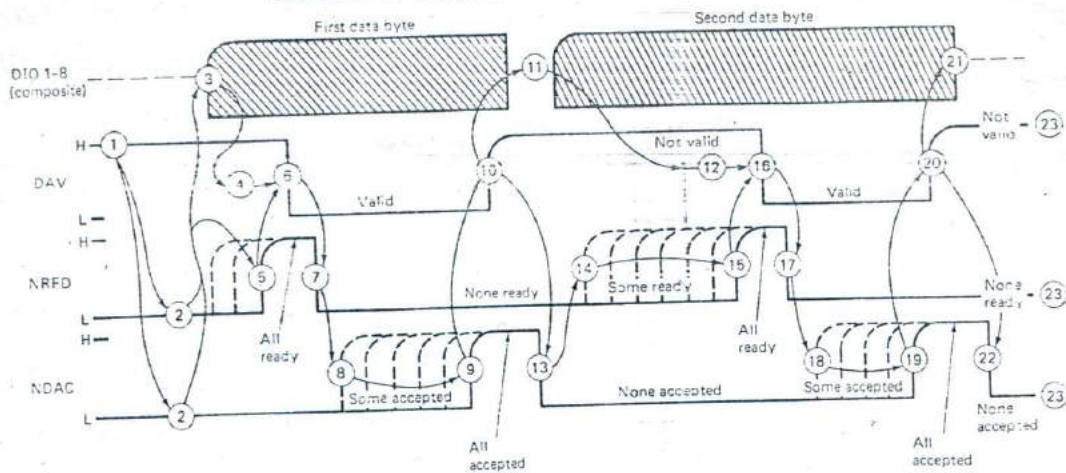

Fig. 13-24 HP-IB three-wire handshaking.
Several listeners can be active at a time, but only one talker may be active at any given time. When a talk address is placed on the data bus with ATN asserted, all other talkers are automatically deselected. The active talker controls the *data valid* (DAV) line. The active listener or listeners control *not ready for data* (NRFD) and *not data accepted* (NDAC). The various listeners may not all accept data at the same rate. The transfer speed is set by the slowest active listener on the bus. This is controlled by an open collector voting system. All the active listeners must agree before the transfer is allowed. The NRFD line is pulled to +5 V with a resistor. Any device that is not ready will ground this line through the collector of a transistor. All of the collectors must go high before NRFD can go high. When the talker sees NRFD go high, it places a byte on the data bus and waits for a 2- μ s settling period. It then asserts DAV by pulling it low. This alerts the listeners to read the bus. They acknowledge by pulling NRFD low. A timing diagram that details the sequence involved in the handshaking process is given in Fig. 13-24.
- Refer to Fig. 13-24. From what time (circled number) to what other time is the first byte being read by the slowest listener on the bus?